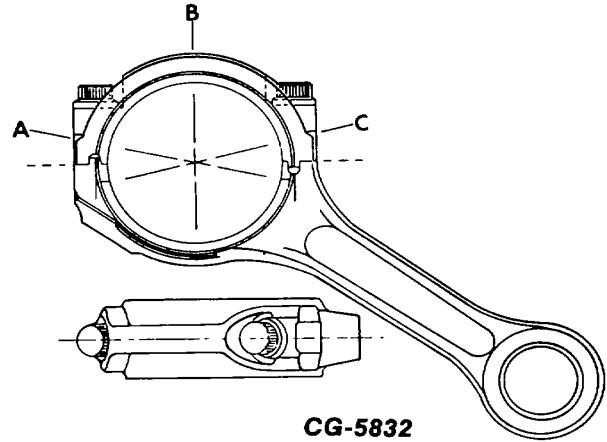

Figure 8. - Connecting Rod I.D. Measurement Locations
- a. Measure and record the three inside diameters of each rod at points "A", "B" and "C", as shown in Fig. 8.